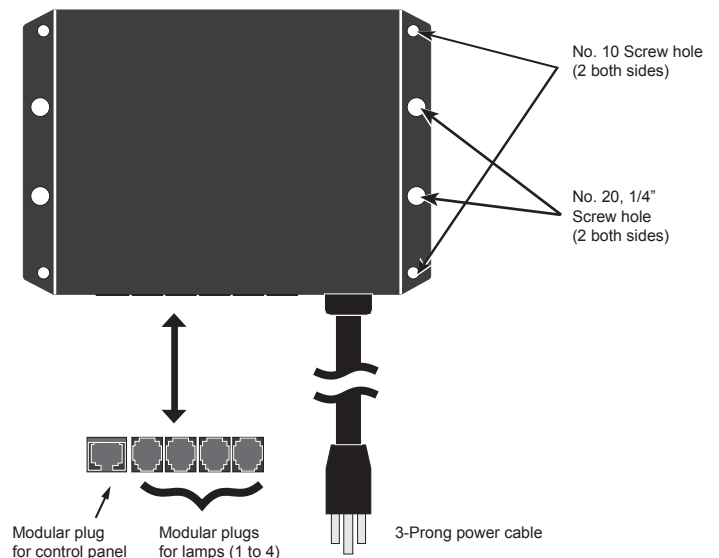
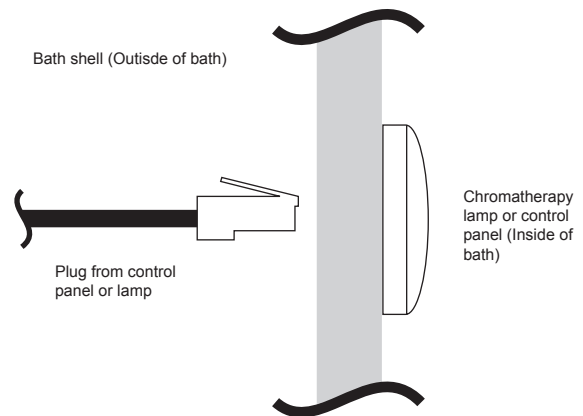

Figure 5. Control Box Connections
Figure 7. Attach plug to Chromatherapy device
Mount the control box to a stud beam or secure wall using four No. 10 screws, or four No. 20, 1/4 inch screws. The mounting holes for the screws are shown in Figure 5.
- Attach the control cable from the control panel to the control box, see Figure 7. The proper plug for the control panel is shown in Figure 5.
- Attach the light cable from the back of the lamp to the control box see Figure 7. The proper plug for the lamp(s) is shown in Figure 5.